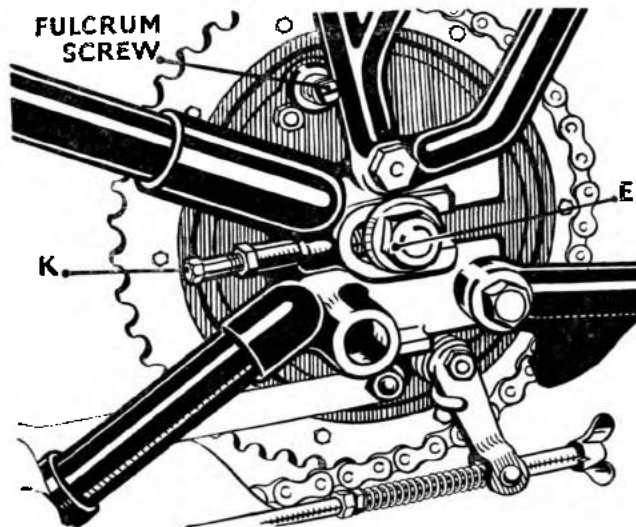

Fig. 17 Rear Brake Fulcrum and Chain Adjustment
To adjust the chain when a rigid frame is fitted, slack off the two rear wheel spindle nuts E (Fig. 17) and loosen the nut securing the brake anchor bar to the brake plate; then adjust by rotating the screw adjusters K; turn each adjuster by an equal amount. The chain should have approximately $\frac{3}{8}$ in. movement in the tightest point midway between the sprockets. After making the adjustment, tighten up the spindle nuts, the locknuts on the adjusting screws and the brake anchor bar nut. Adjust the rear brake if necessary: see brake adjustment, P. 54. See also P. 71 for adjustment with spring frame.
5. BRAKE ADJUSTMENT. (See Fig. 17)
Procure a plain board about 6ft. long, 3in. wide and $\frac{3}{4}$ in. thick see that one edge is perfectly straight. With the machine on the stand, place the straight edge of the board alongside the two wheels so that it touches each wheel. Turn the handlebars if necessary so that the front wheel touches the edge of the board at two points. If the wheels are in perfect alignment the board will also touch the rear wheel at two points. If it does not touch in this manner, slack off the rear wheel spindle nuts and turn the chain adjusters (see Fig. 17) until the wheel touches the board at two points. The handlebars may require turning very slightly, to adjust the position of the front wheel to correspond with the new position of the rear wheel.